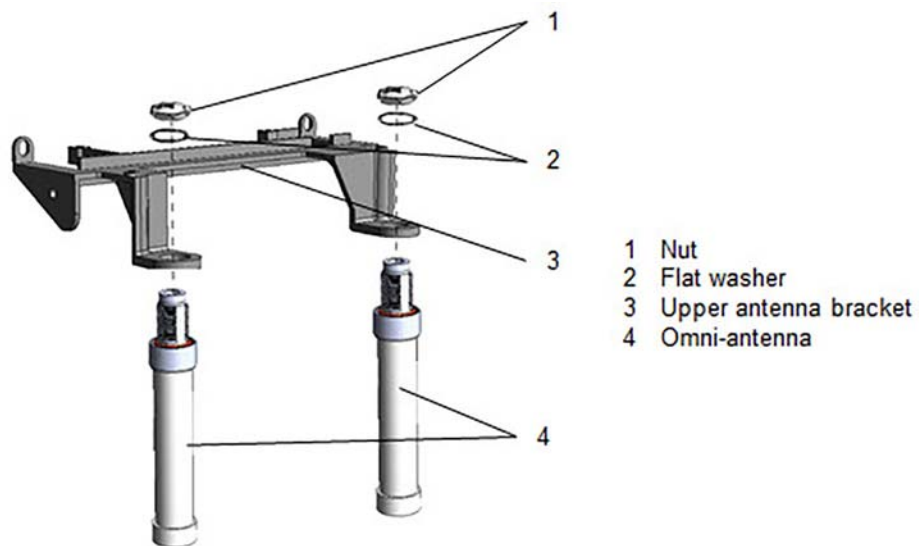

Figure 5-6 Installing omni-antenna on lower antenna bracket
4. Install up to two (2) omni-antennas on the lower antenna bracket as shown in Figure 5-6 using the supplied antenna hardware.